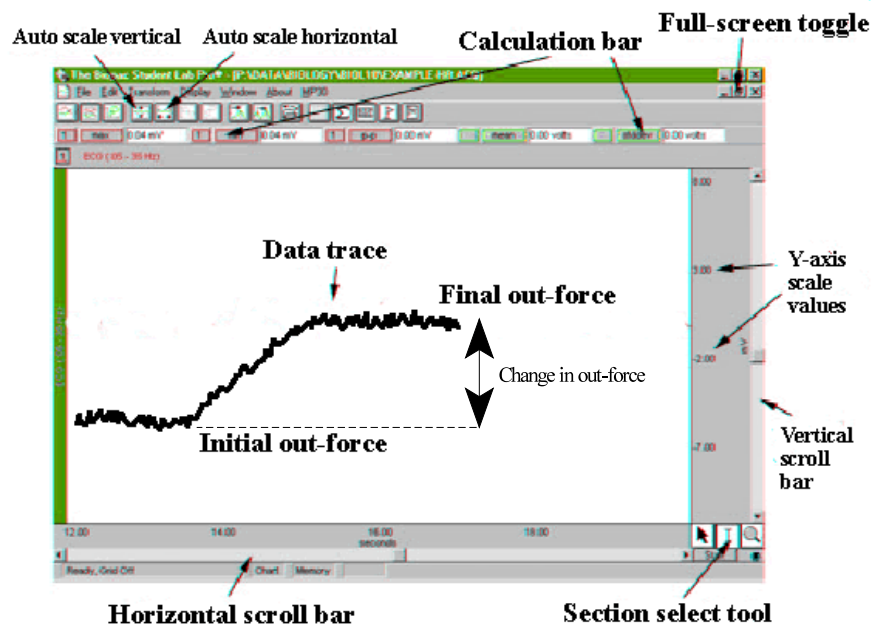

Figure 3. Sample image from the BIOPAC Student Pro software. A typical data trace from this experiment is shown.
→**Click on full screen toggle.** What you see is a record for a lever experiment that was collected previously. Note the positions of the various buttons that will allow you to modify the data display (Figure 3.).
- ▶ The change in force will automatically be calculated in the **p-p box** in the calculation bar (figure 3). The program calculates the difference between the minimum and maximum values recorded across the highlighted region of the trace. Record the change in out- force in your table.